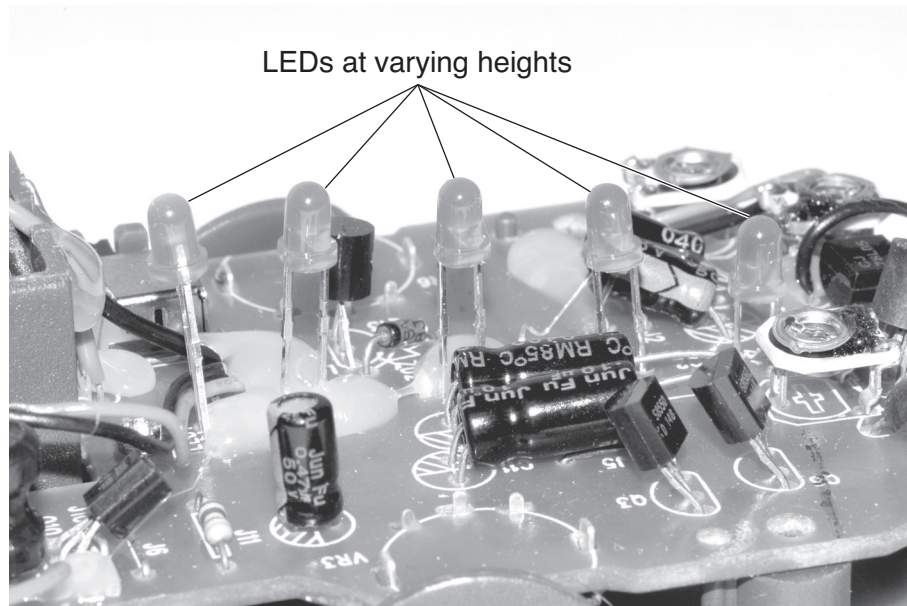

Fig. 7
- (d) Fig. 7 shows the LED indicators on the circuit board. The LEDs have been soldered into position at varying heights to match the curve of the case.